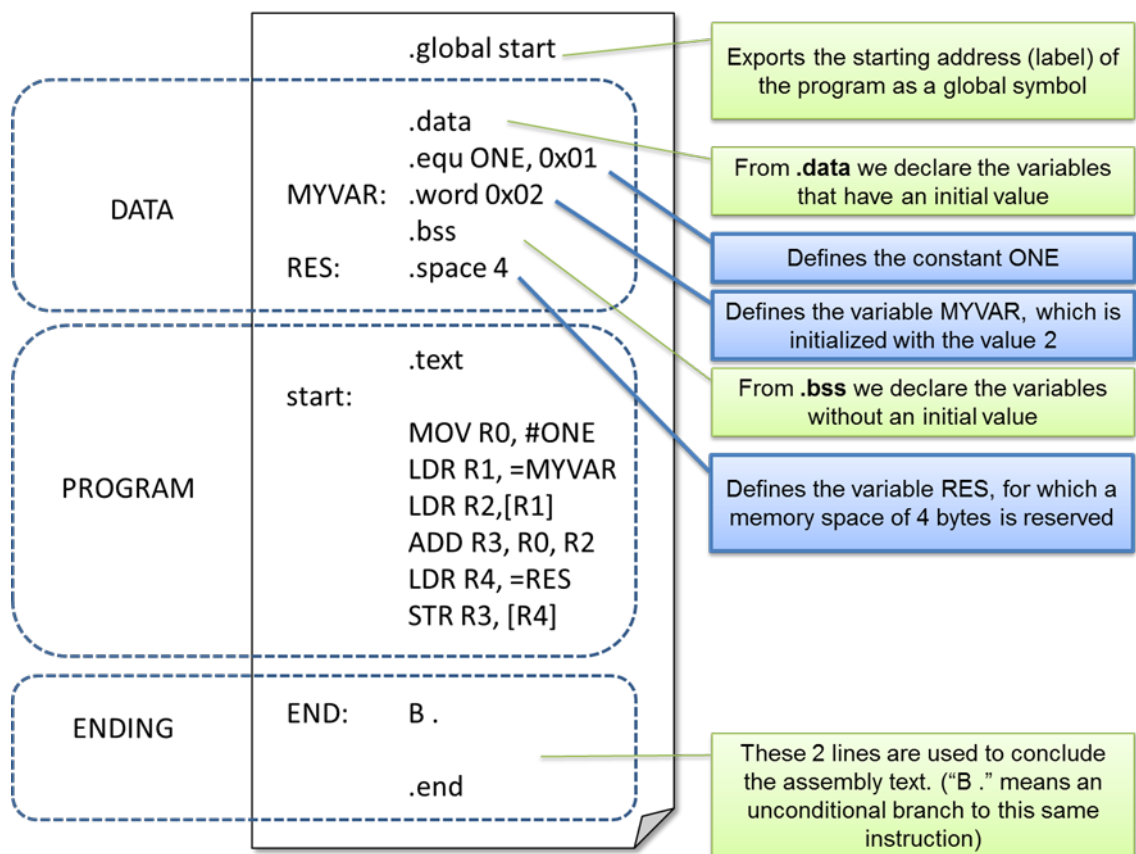

Figure 1.3 Structure of an assembly program: data
- **Directive:** it is a command that the programmer gives to the assembler. Directives may instruct the assembler to initialize memory locations with a certain value, define symbols that make the program more readable, mark the starting and ending points of a program, etc. (See Figure 1.3). Directives are needed because, in addition to writing the algorithm using assembly instructions, the assembly language programmer has to reserve memory space for variables, and store their initial value (if defined) in the corresponding addresses. In Figures 1.3 and 1.4 we have used the following directives:
The code in the first column of Table 1.11 corresponds to the code in assembly language with labels, as shown in Fig. 1.3. This code allows a quick writing of the algorithm without having to perform offset computations manually in order to specify the location of variables in memory.